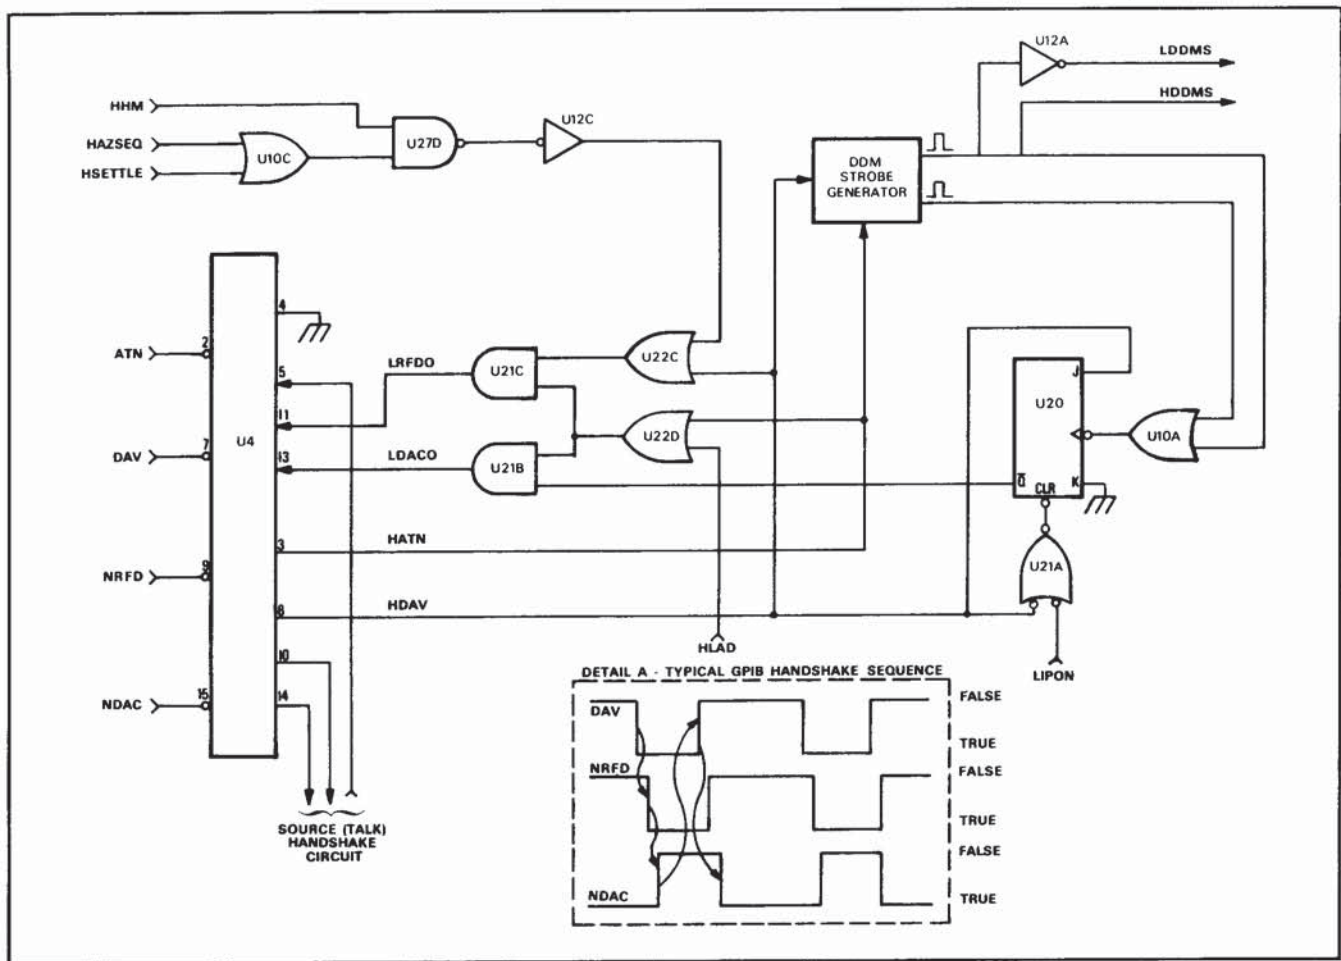

Figure 7-104. Acceptor Handshake Circuit, Simplified Schematic
This circuit (1) monitors the ATN management, DAV handshake, and HLAD control lines, and (2) handshakes (communicates) with the talker when the logic states of ATN, HLAD and DAV indicate handshaking is required. The handshake cycle and the two conditions under which handshaking occurs are described below. The full schematic for this circuit is shown in Figure 7-102, the parts locator diagram is shown in Figure 7-103, and a simplified schematic is shown in Figure 7-104. Refer to Figure 7-104 for the following discussion.
This cycle (Detail A, Figure 7-104) involves a three-part interchange between the talker (controller) and the listener (560A acceptor handshake circuit). The first part of the interchange occurs when the 560A circuit senses the DAV line is LOW. When DAV is sensed to